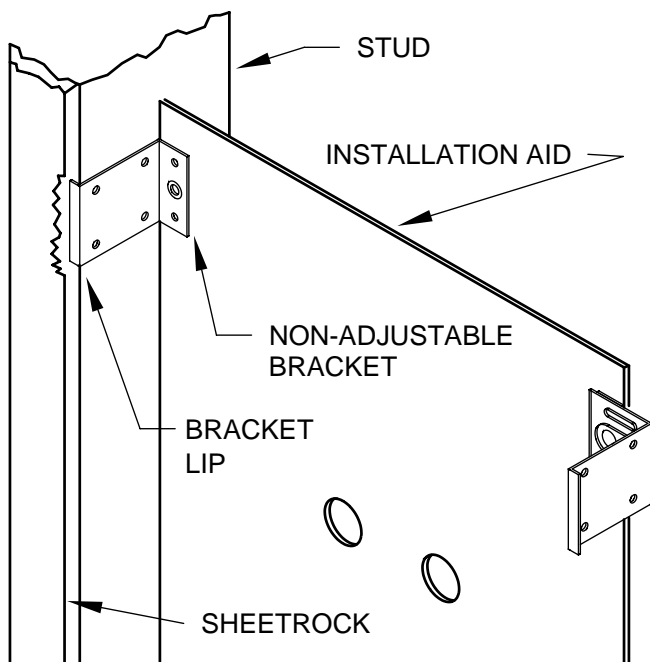

fig. 15
3. Slide the lip of both fixed brackets between the stud and the sheetrock. Fasten brackets to the stud/joist with #6 x 1" sheetrock screws. (please see fig. 15)